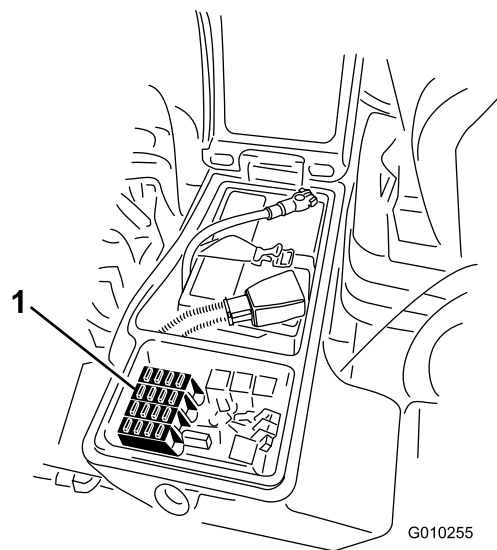
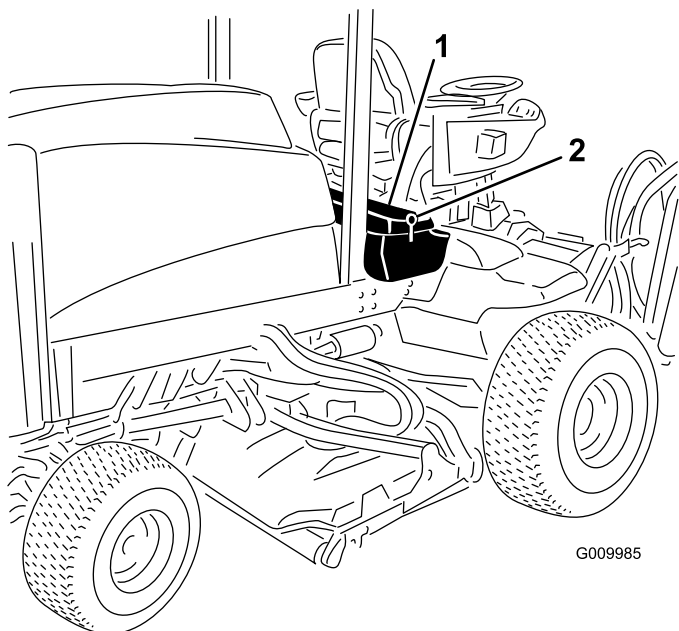

Figure 52
Figure 51
3. Close the cover of the right storage box and secure the cover with the latch (Figure 51).
1. Loosen the latch for the cover of the right storage box and raise the cover (Figure 51) to expose the fuse block (Figure 52).
2. Replace the open fuse(s) as needed (Figure 52).